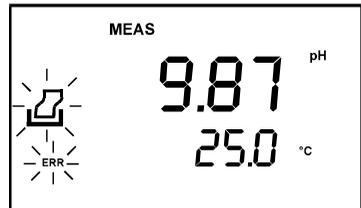

Figure 14: Error in printing
2. If the [PRINT] key is pressed while the printer is not ready or if the printer is off, the pH 100 meter displays error message by showing both the printer and the ERR annunciators blinking alternately, and awaits the printer to be ready (Figure 14).